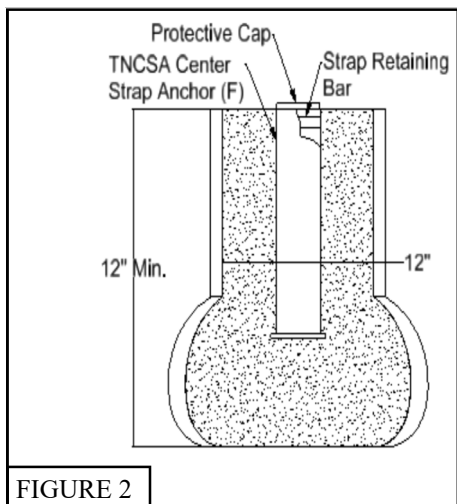

FIGURE 2
3. Dig one 8" round and a minimum 12" deep hole centered between the two pickleball posts (make sure to bell out the bottom of the hole). Insert *TNCSA Center Strap Anchor* (F) with the strap retaining bar running parallel with the *PK10NXL Net* (D) and fill hole with concrete. The hole will require 2 to 3 1/3 cubic bags of concrete. See Figure 2.
4. Concrete must cure 7-10 days before continuing with *PK10NXL Pickleball Net* (D) installation.
5. Stretch out *PK10NXL Pickleball Net* (D) across the court.